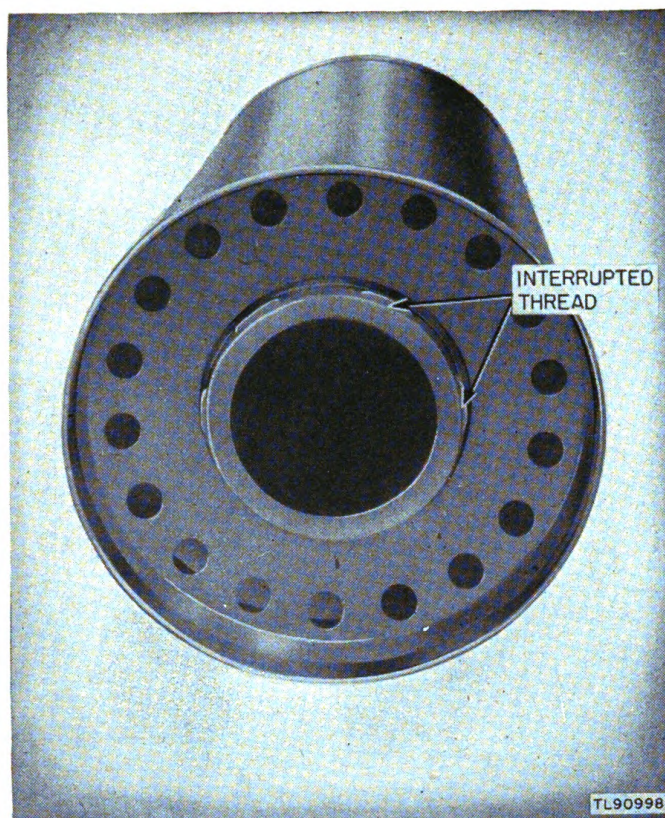

Figure 5. Hydrogen Generator ML-303/TM—bottom view.
*a. GENERATOR BODY.* The generator body is a cylindrical steel can. It is approximately  $15\frac{1}{2}$  inches long and  $5\frac{1}{8}$  inches in diameter. The top of the cylinder is provided with a threaded neck for attaching the outlet tube. The bottom of the generator is recessed and has a protruding center opening with male interrupted screw threads for attaching the calcium hydride charge. Eighteen holes, each approximately  $\frac{3}{8}$  inch in diameter, are arranged in a circle around the center opening (fig. 5). These openings serve as vents for the passage of water.